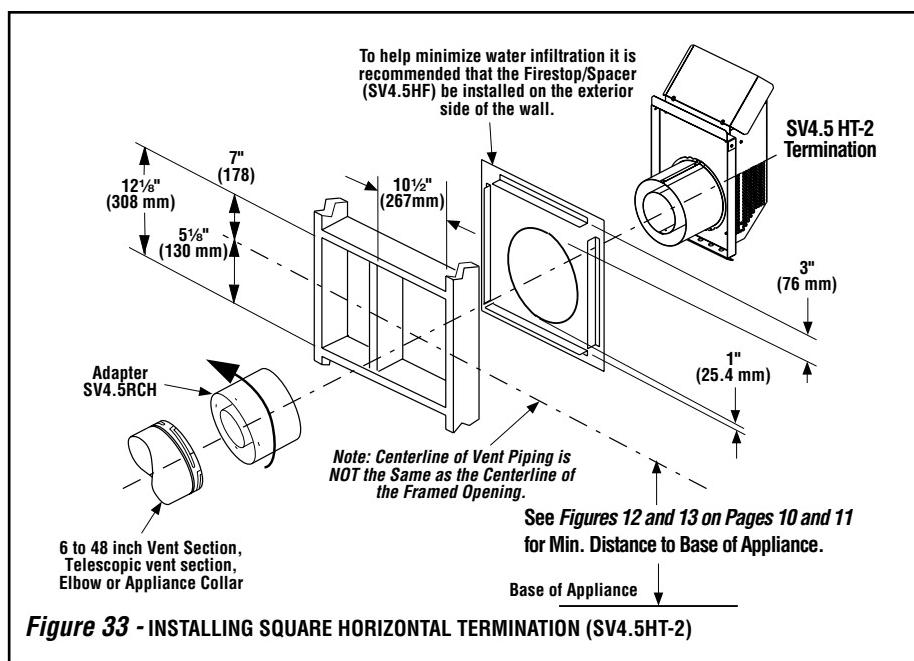

Figure 33 - INSTALLING SQUARE HORIZONTAL TERMINATION (SV4.5HT-2)
K. Attach termination adapter - Attach the adapter (SV4.5RCH - provided with the termination) to the vent section or telescoping vent section), elbow or appliance collar as shown in **Figures 33 and 34** in the same manner as any SV4.5 vent component (refer to **Step E**).
- When using the **square** termination, install SV4.5HF (Secure Vent), SF4.5HF (Secure Flex) Firestop / Spacer over the opening at the exterior side of the framing, long side up, with the 3 inch spacer clearance at the top as shown in **Figure 33**, and nail into place.